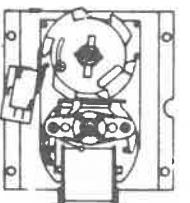
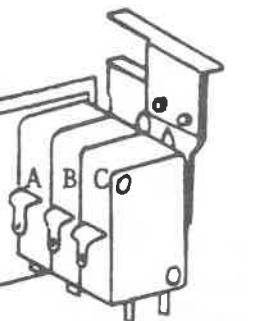

Figure 1
Figure 2
7, 5, 3, 1, 2, 4, 6, 8 (Fig. 1)
On the inside of the Control Panel, all select buttons and switches are numbered. If not numbered, then Push Button arrangement is as shown in (1) one of the foregoing diagrams, i.e. Figures 1, 2, 3, or 4.
1. See Vend Motor and cluster switches in stand-by position Figure 1 and Figure 2.
Arm of Vend Motor Switch A is in cam notch - Figure 2
Arm of Cam Hold Switch B is on top of cam - Figure 2
Arm of By Pass Switch C is on top of cam - Figure 2